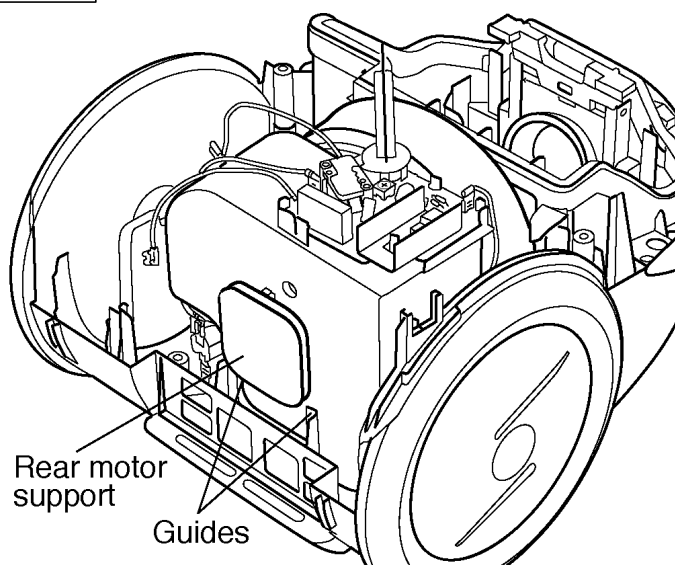

Fig.8
9. Place the motor unit and cord reel ass'y into the lower body. Note: Align rear motor support with the lower body guides. (Fig. 8)